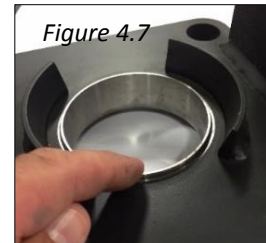

Figure 4.7
4. **Valve Seat Area** - Inspect the seating area for scratches, gouges, dents, excessive wear, damage, etc. Replace if such conditions exist. It might be beneficial to use a fine grade Emory Paper to remove any residue or stubborn commodity. The seat is the most crucial piece for proper valve operation and any discontinuity can cause the valve to leak. (Figure 4.7)